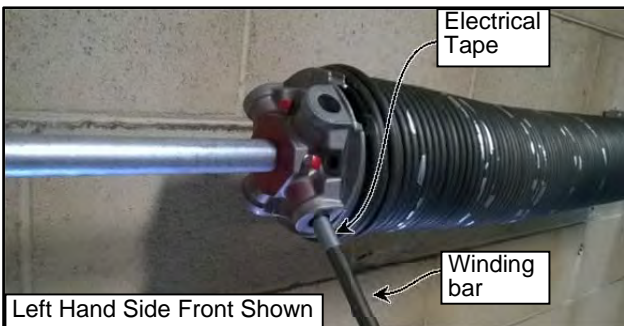

Figure 43
9. Tape winding bars as shown. This will help assure you are inserting completely into the cones when winding/unwinding the torsion springs to prevent bars from slipping out of the cone. (See Figure 43)